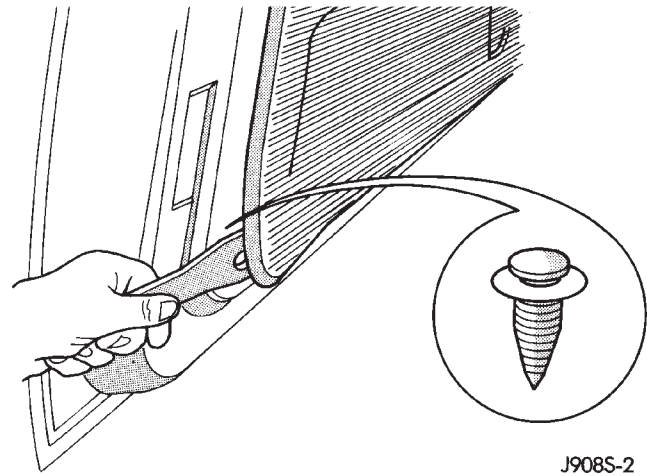

Fig. 6 Trim Panel Removal
(7) Remove the trim panel with a wide flat blade tool (Fig. 6).